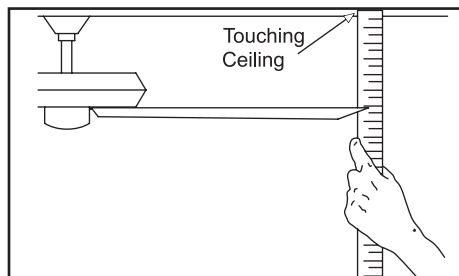

Figure 17
2. Most fan wobble problems are caused when blade levels are unequal. Check this level by selecting a point on the ceiling above the tip of one of the blades. Measure from a point on the center of each blade to the point on the ceiling. Measure this distance as shown in Figure 17. Rotate the fan until the next blade is positioned for measurement. Repeat for each blade. Measurements deviation should be within $1/8''$. Run the fan for 10 minutes.